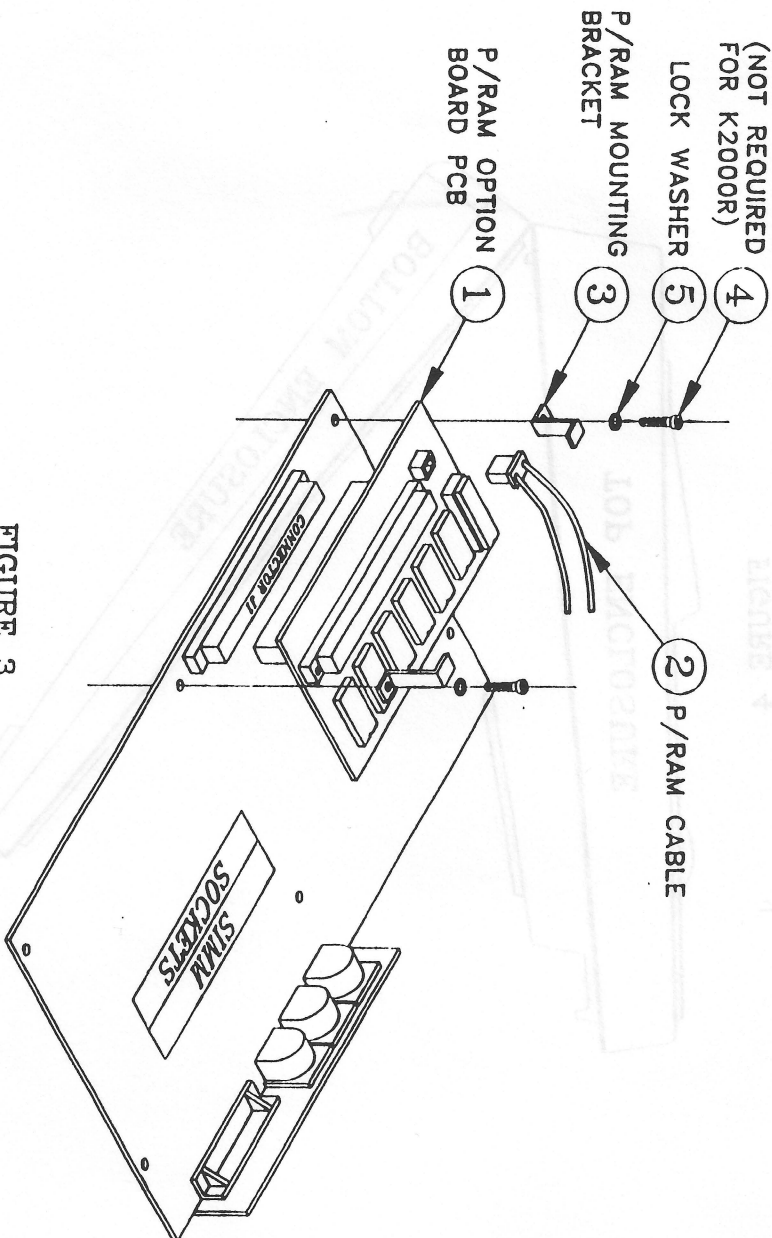

FIGURE 3
- 8 Remove the two screws to the left and right of connector J1 (see Figure 3). You can discard these screws, as they will not be reused.
- 9 Take the P-RAM Option board (Item 1) and with the components facing up, press its connector into connector J1 on the Engine board. See Figure 3. The P-RAM Option board connector is keyed to prevent improper connections.
- 13 Take the P-RAM Option board cable (Item 2) and plug it onto the keyed connector on the P-RAM Option board. See Figure 3.